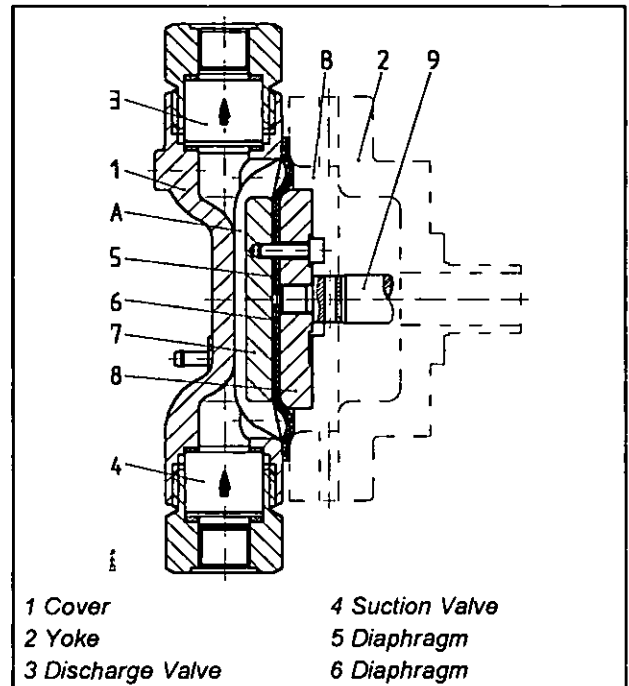
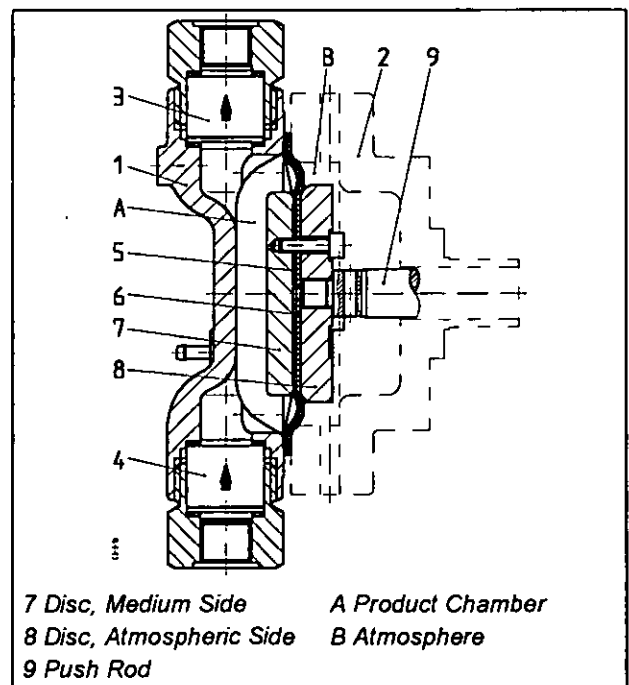

Fig. 3.1: Diaphragm at Front Dead Centre
Fig. 3.2: Diaphragm at Rear Dead Centre
- Suction stroke:** Movement from front (Fig. 3.1) to rear dead centre (Fig. 3.2).
- Discharge stroke:** Movement from rear (Fig. 3.2) to front dead centre (Fig. 3.1).